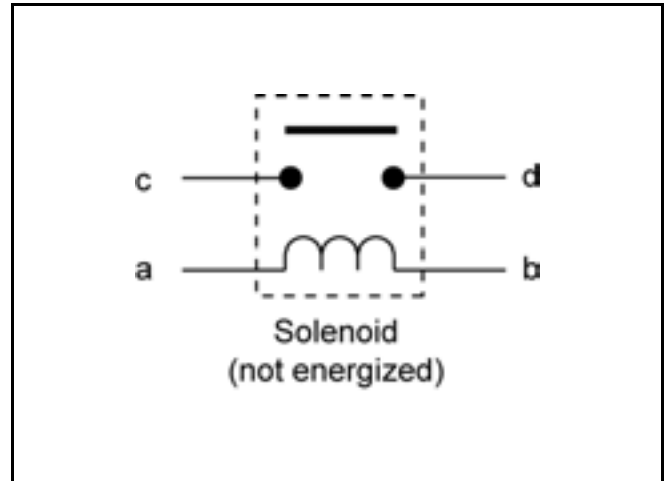

Figure 222
2. With a multimeter (ohms setting), check to ensure that terminals "c" and "d" are open (no continuity) (Figure 222).
3. Apply +12 VDC to terminal "a" and ground terminal "b". Terminals "c" and "d" should now be closed (continuity) (Figure 222).